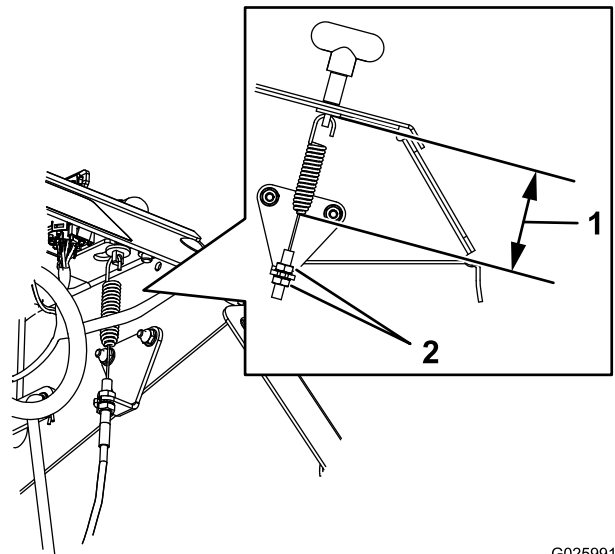

Figure 48
4. Loosen the jam nut on the brake cable under the console (Figure 48).
5. Engage the parking brake (Figure 48).
6. Adjust the jam nut position until 7.9 cm (3-1/8 inch) from the bottom of the link to the bottom of the spring (Figure 48).
7. Secure the adjustment of the cable by tightening the jam nuts (Figure 48).